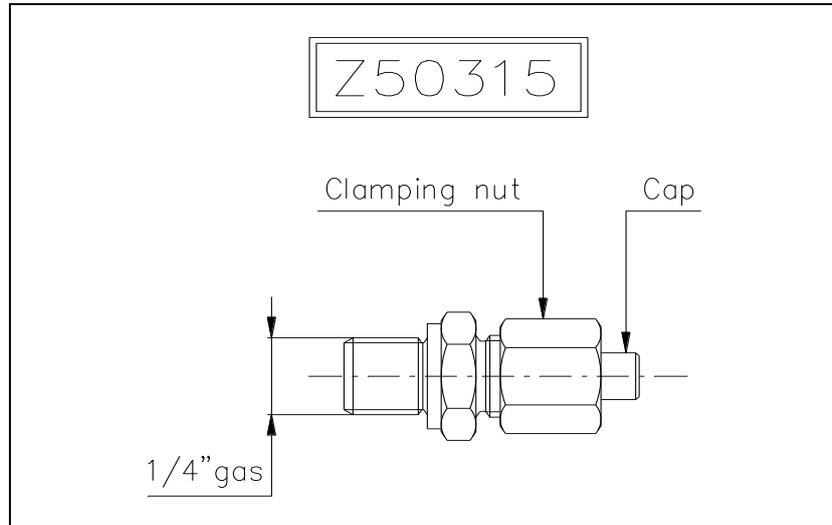

Figure 2
5. The brake is supplied with a bleed vent cod. Z50315 (Photo 4). To bleed air out of the circuit, loosen the retaining nut of the fitting (Photo 5) and pull the tubular cap outward (Photo 6). After bleeding off the air tighten the fitting again (Figure 2).